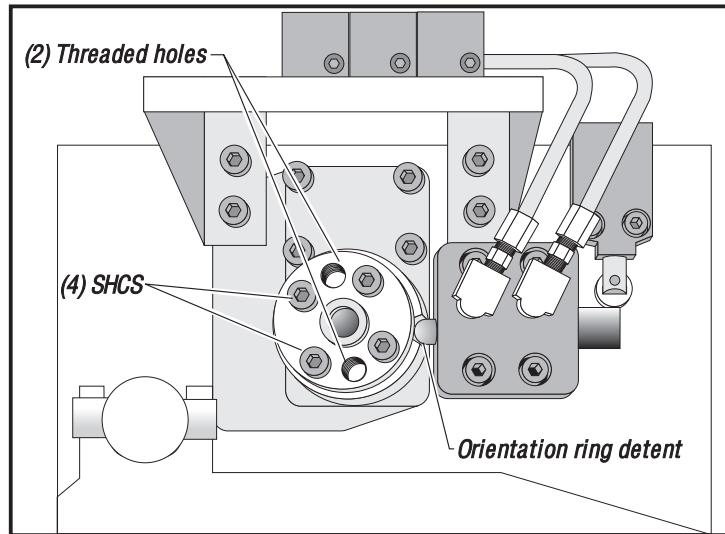

Figure 4-2. Rear view of spindle orientation components.
3. Loosen the four SHCS on the orientation ring (Figure 4-2). Remove two of these screws and insert them into the two threaded holes in the ring. Evenly tighten these two screws until the taper lock is broken free from the shaft.